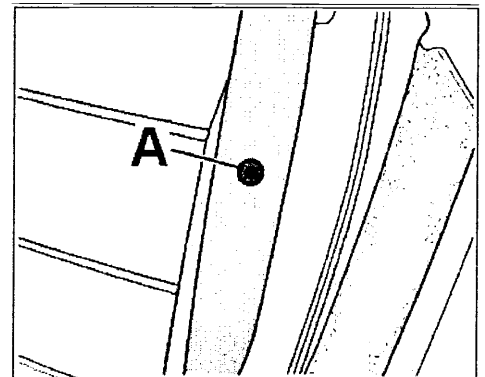

Figure 2
7. Carefully clip off catch limiter on left seat belt (Figure 2, Item A) using a plastic wedge or spatula and remove it.